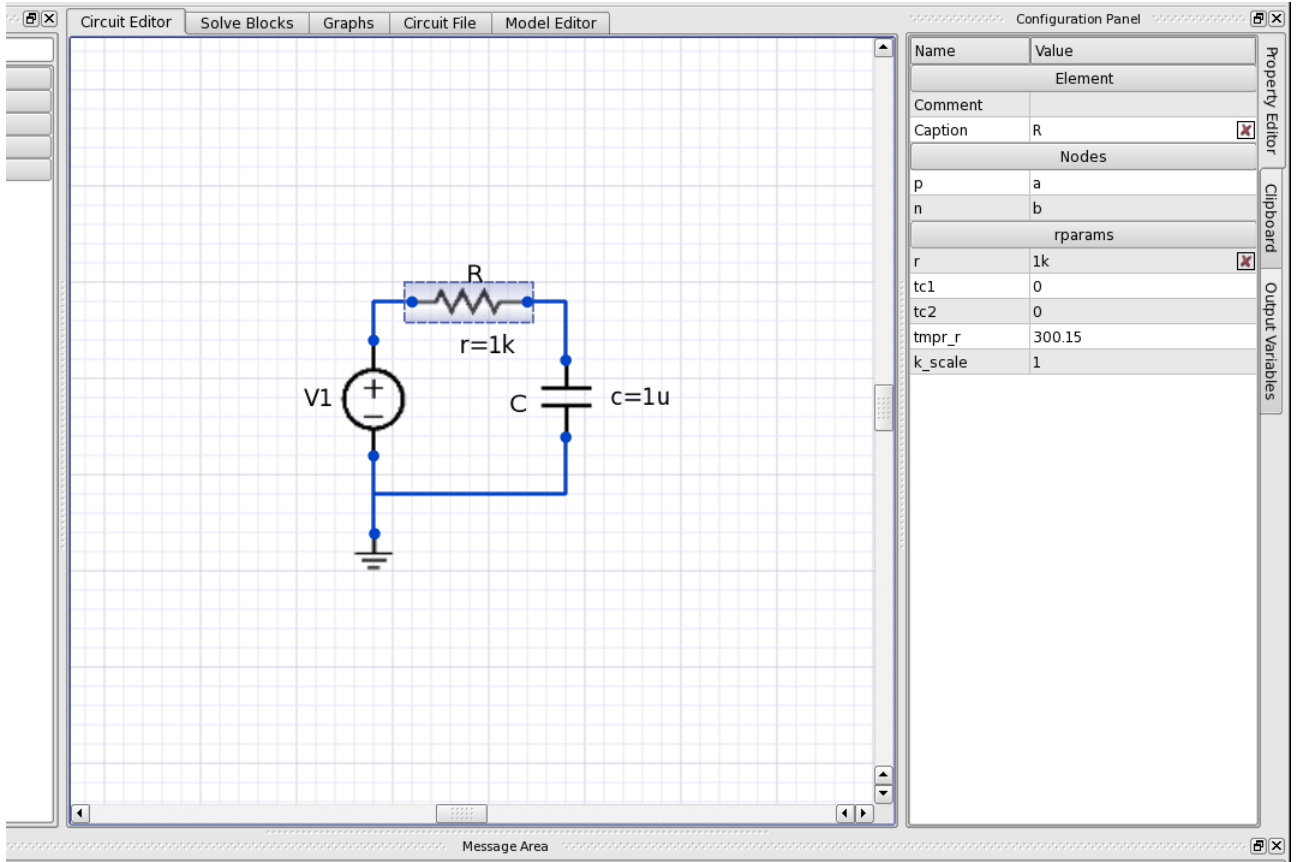

Figure 3: Snapshot showing element properties.
- (ii) Click on the “circuit editor” tab to view the circuit schematic. You may single-click on any of the components to view its parameters in the right window, by clicking on the tab “property editor” there. Fig. 3 shows the properties of the resistor, for example. You could also view the list of output variables that have been selected for this project, by clicking on the “output variables” tab in the right window.